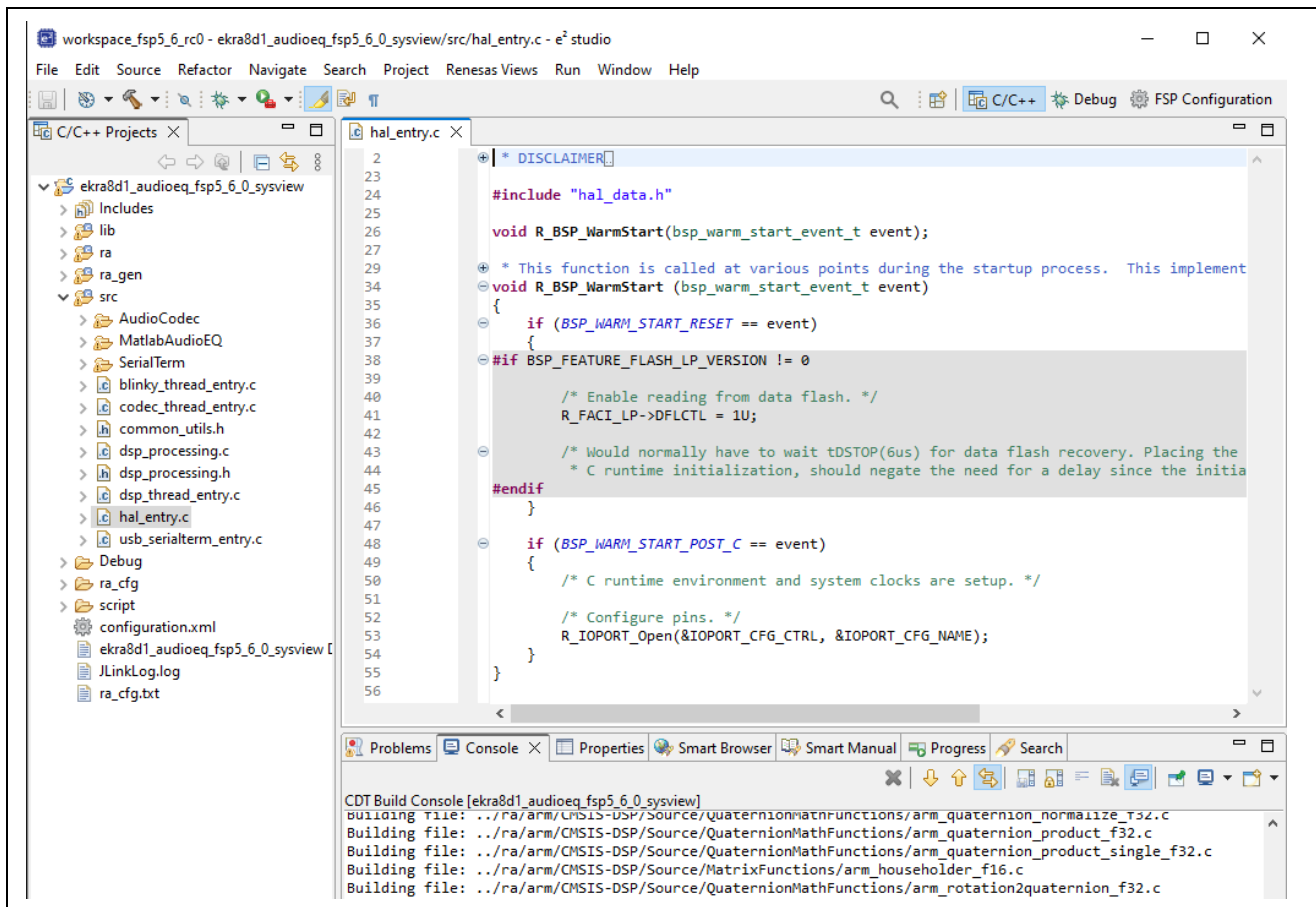

Figure 1. Build Audio Equalizer Project
After importing the example project, you can build, download, and run the project. See Figure 1 Build Audio Equalizer Project, which shows the Audio Equalizer project.
- Navigate to **File -> Import**, which brings an import dialog. In this dialog, select the wizard titled “Existing Projects into Workspace” to finish importing the project (see Figure 1. Build Audio Equalizer Project).